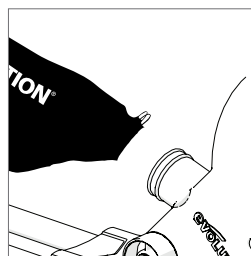

Fig. 42
- Slide the Dust Bag over the dust extraction port, ensuring that the spring clip grips the port holding the Dust Bag securely in place. (Fig. 42)